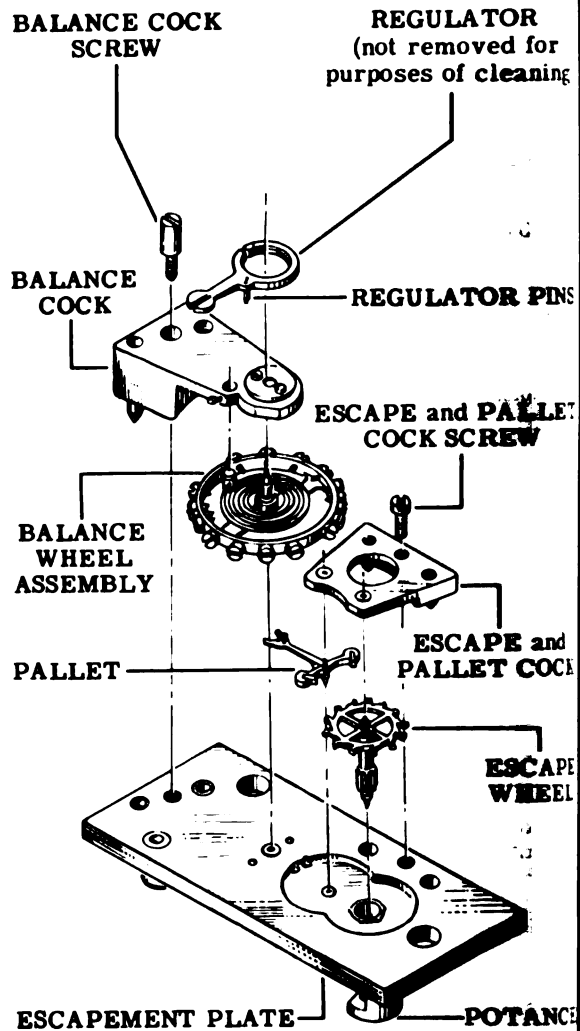
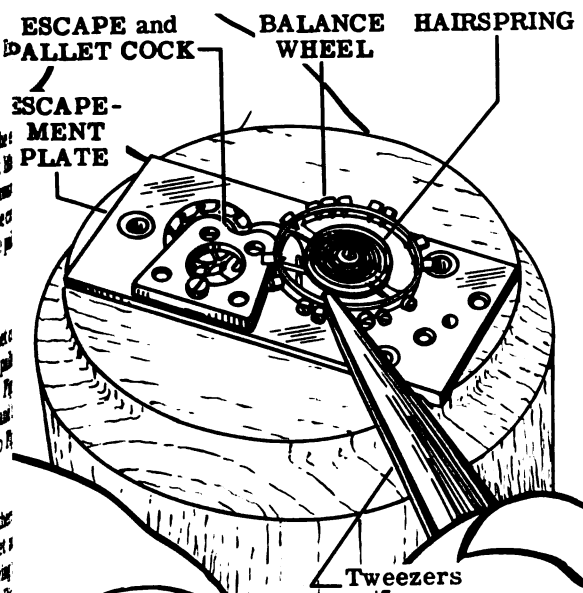
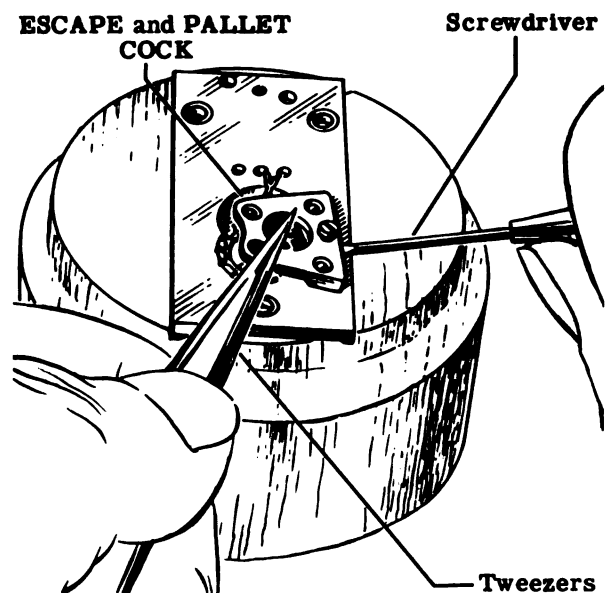
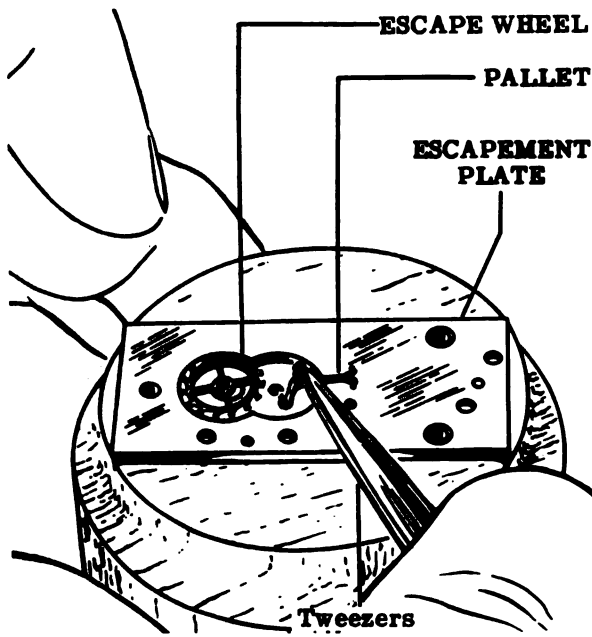

Figure 66—"New" Seth Thomas Escapement (R-20666)
Figure 69
Figure 70
Figure 71
5. Lift out the entire balance wheel as shown in Fig 69, and also in Figs. 66, 67 and 68, and put it in the cleaning tray without any further disassembly.
6. Unscrew the escape and pallet cock screw and remove the escape and pallet cock as shown in Fig. 70. Also see Figs. 66, 67 and 68. Lift out the pallet and the escape wheel. See Fig. 71, and also Figs. 66, 67 and 68.